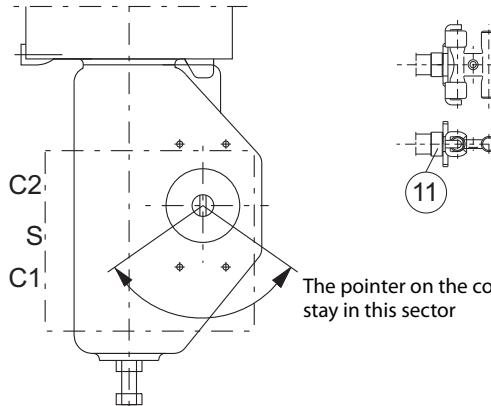

Fig. 7 Mounting on Metso actuator with VDI/VDE mounting face
Shaft coupling alternatives for the controller for Metso actuators are shown in Fig. 7.
- Mount the H-shaped coupling (47) to the shaft. Apply the thread-locking compound to the screw (48) and tighten firmly.
- BJ and other single acting actuators:** mount a metal plug (53) with sealant to the C1 connection.
- Set the direction arrow of the actuator in the direction of the valve closure member and attach the ear (2) to the indicator cover in the position shown in Section 11.3. Secure the screw of the ear using e.g. Loctite and tighten firmly.
- Attach the bracket (1) to the ValvGuard.
- Attach the bracket (1) to the actuator. The shaft coupling of the ValvGuard must fit into the ear (2) so that the pointer is located in the position shown in Fig. 7.